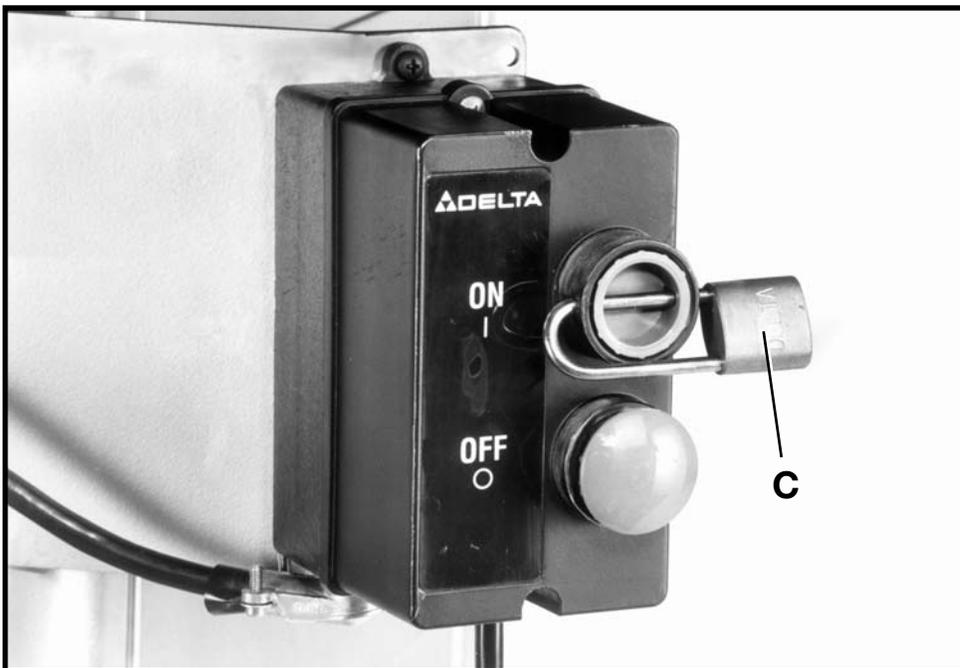

Fig. 44
**IMPORTANT:** We suggest that when the shaper is not in use, the switch be locked in the “OFF” position using a padlock (C) Fig. 44 , through the switch plate and “ON” button as shown.